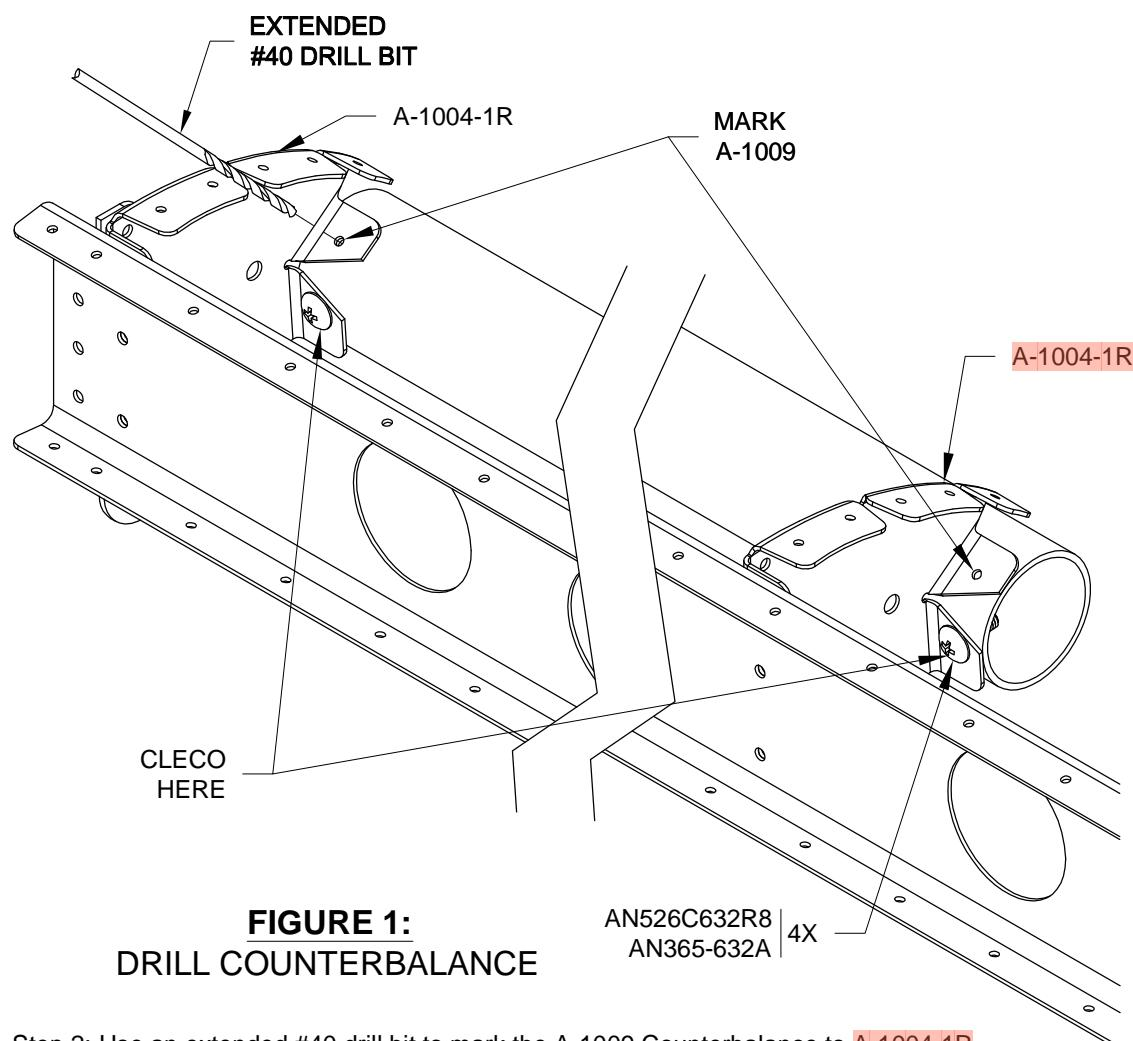

FIGURE 1:
Step 1: Cleco the A-1009 Counterbalance to the A-1004-1R Nose Ribs as shown in Figure 1.
Step 2: Use an extended #40 drill bit to mark the A-1009 Counterbalance to A-1004-1R Nose Rib attach holes on the spar by leaning the drill in alongside the rib as shown in Figure 1.
Attach the counter balance to the nose ribs using the hardware called out in Figure 1. If you have difficulty getting a screwdriver on the head of the screw use an offset screwdriver or a Phillips bit tip held in Vise-Grip pliers at 90°.